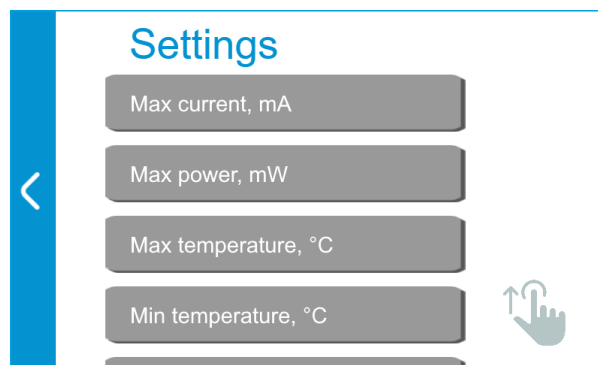

Figure 3 – Settings menu
5. In the settings menu (fig. 3), set the laser parameters according to its datasheet. The user can set the allowed ranges for the operation temperature and current, the values of thermistor resistance at 25 °C and beta parameter, the maximum current of the TEC and the monitor PD responsivity. **Note:** the correct values of thermistor resistance at 25 °C and beta parameter are necessary for proper thermal stabilization. **Note:** the correct values of monitor PD responsivity are necessary for constant power mode.